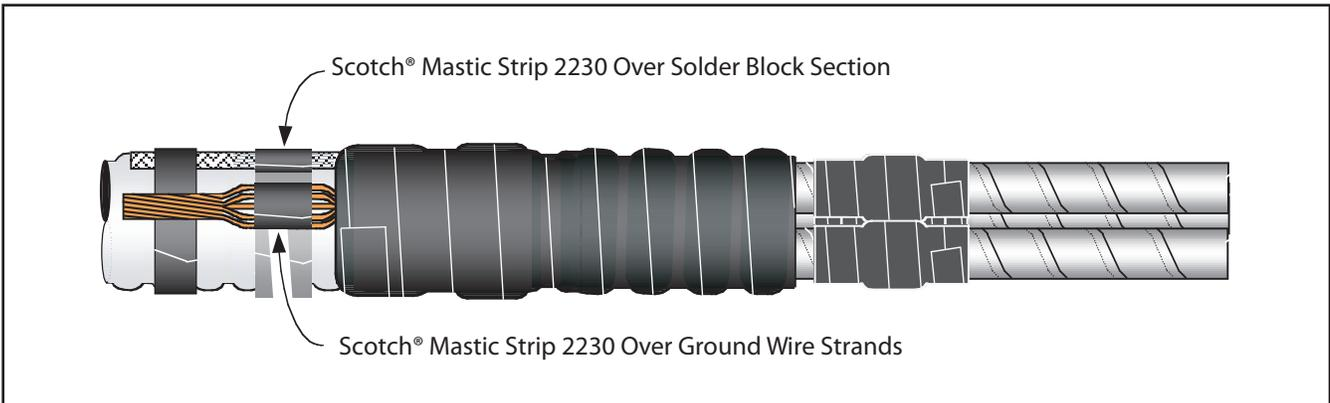

Figure 10
2.13 Apply one Strip of Scotch® Mastic Strip 2230 around ground wire strands (Figure 10). Apply one mastic seal strip around solder block section of ground braid tail. Align mastic strip wraps with previously applied mastic strip band around cable jacket.